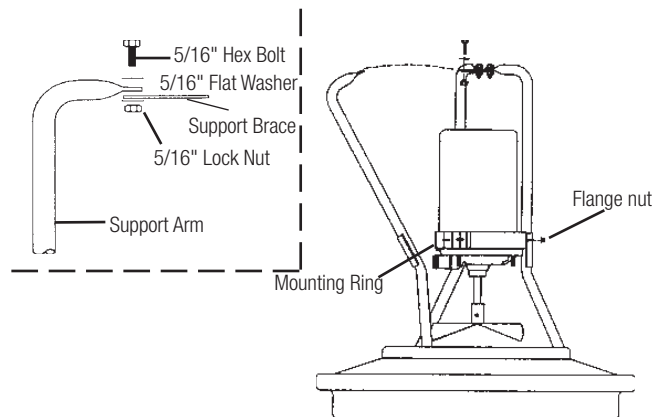

Figure 2
See Figure 2.
- a. Removing the two flange nuts from the mounting ring. See Figure 2.
1. Insert the support arms into the pockets in the float. See Figure 2, pg. 1.
2. Install the first support arm to the mounting ring. See Figure 2, pg. 1.
- a. Attach the support arm to the mounting ring with two flange nuts. See Figure 2, pg. 1. Use the second hole down from the float in the arm bracket when attaching.
- a. Attach the support arm to the support brace with a 5/16" hex bolt, a 5/16" locknut and a 5/16" flat washer. See Figure 2 insert, pg. 1.